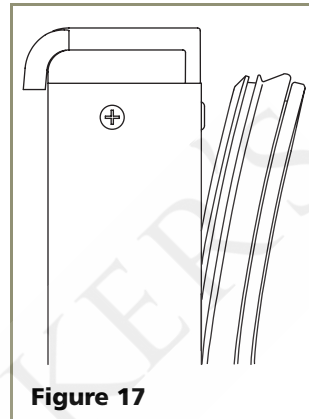

Figure 17
3. Pull door gasket out of the groove (top edge of door only). Start in the middle and pull outward, moving toward the edge (see **Figure 17**). This may take some force.